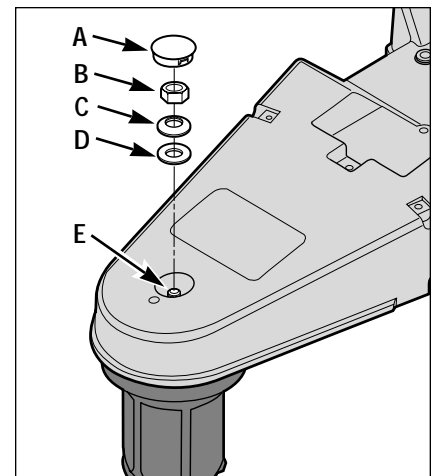

Figure 5-4
4. Remove the plastic plug (A, Figure 5-4) from the top of the mower deck.
5. Using a 3/4" socket wrench, remove nut (B, Figure 5-4), Belleville washer (C) and flat washer (D) from spindle shaft (E).
6. Thread nut (B, Figure 5-4) a few turns back onto spindle shaft (E) to protect threads on spindle shaft during the next step.
7. Loosen the spindle shaft by placing a wood block against the top of the nut (B, Figure 5-4) and firmly striking the wood block with a hammer.
8. Reinstall the flat washer (D, Figure 5-4), Belleville washer (C) and nut (B) on the spindle shaft. Note that the dished-in side of the Belleville washer must face the flat washer. Tighten the nut securely (torque to 50 ft./lbs.), while checking frequently to ensure that the spindle head rotates freely. If the spindle head binds, it could be due to the belt being pinched between the spindle head and the belt guides. If so, remove the spindle head assembly and repeat steps 5-7.
9. Replace plastic plug (A, Figure 5-4).